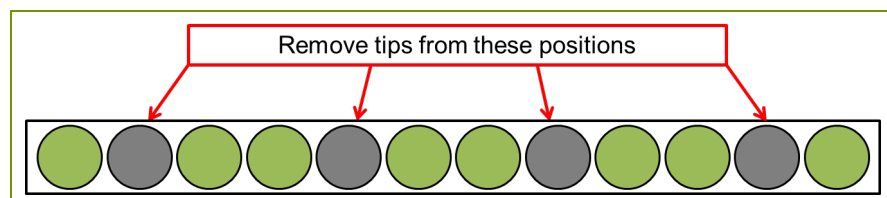

Figure 2: Tip Loading Strategy on a 12-channel Pipettor
4. Before adding medium, load a 12-channel pipettor with sterile tips according Figure 2.
2. Load a 12-channel pipettor with sterile tips as identified in Figure 2 and remove 50% of the spent medium from the 48-well MEA plate one row at a time.